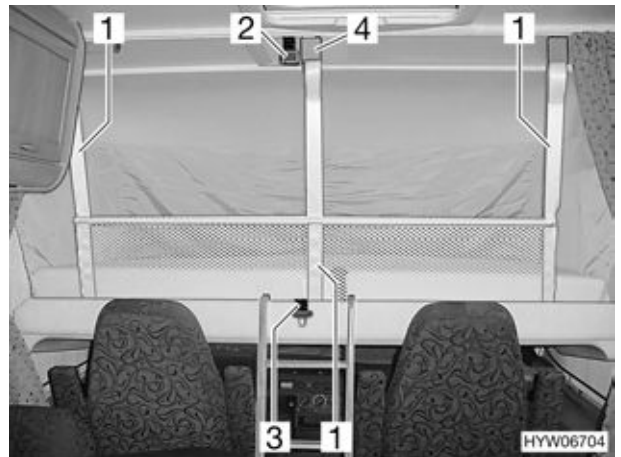

Fig. 71 Pull-down bed complete with applied safety net
- Undo retaining belt (Fig. 71,3).
- Hook retaining belts (Fig. 71,1) into the hooks (Fig. 71,4) on the ceiling.
- Release retaining belts (Fig. 71,1) and place underneath mattress.
- Secure pull-down bed to the roof (Fig. 71,3) by means of the retaining belt (Fig. 71,2).